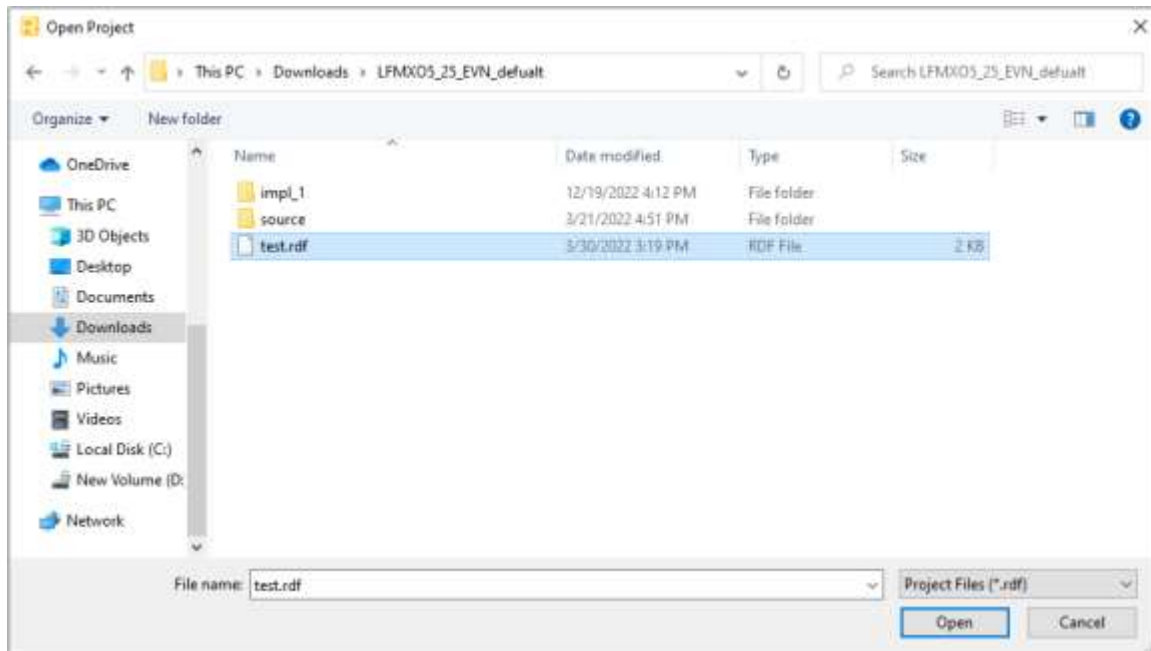

Figure 8.1. Radiant Software – Open Project Dialog Box
3. In the **Open Project** dialog box, select the *test.rdf* file and click **Open**, as shown in Figure 8.1. This opens the demo project.